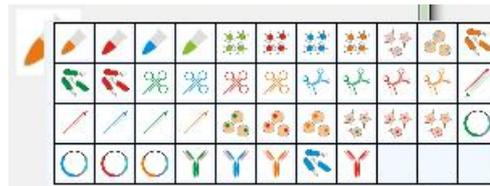

Figure 76. Icon selection table.
- **Icon** click on the default icon to display icon list (Fig. 76). Click on desired icon to be used to display you sample in the box.